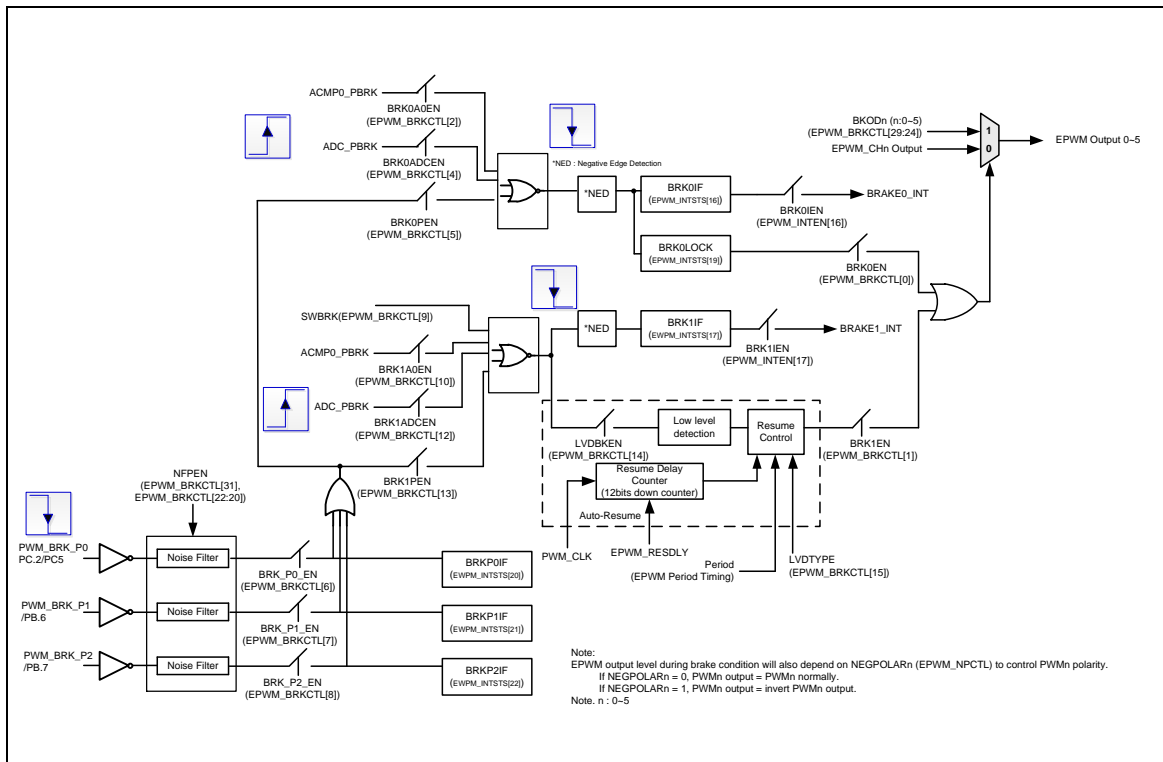

Figure 6.8-23 EPWM Brake Architecture
**Note:** For the BRKnIF's interrupt architecture illustration, see Figure 6.8-23.